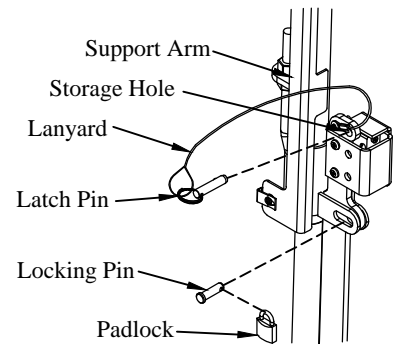

Figure 26: Platform lock.
10. **Insert** the latch pin into the storage hole (Figure 26).
11. **Insert** the locking pin through the hole in the passenger side support arm (Figure 26).
12. **Lock** the padlock through the hole in the locking pin (Figure 26).